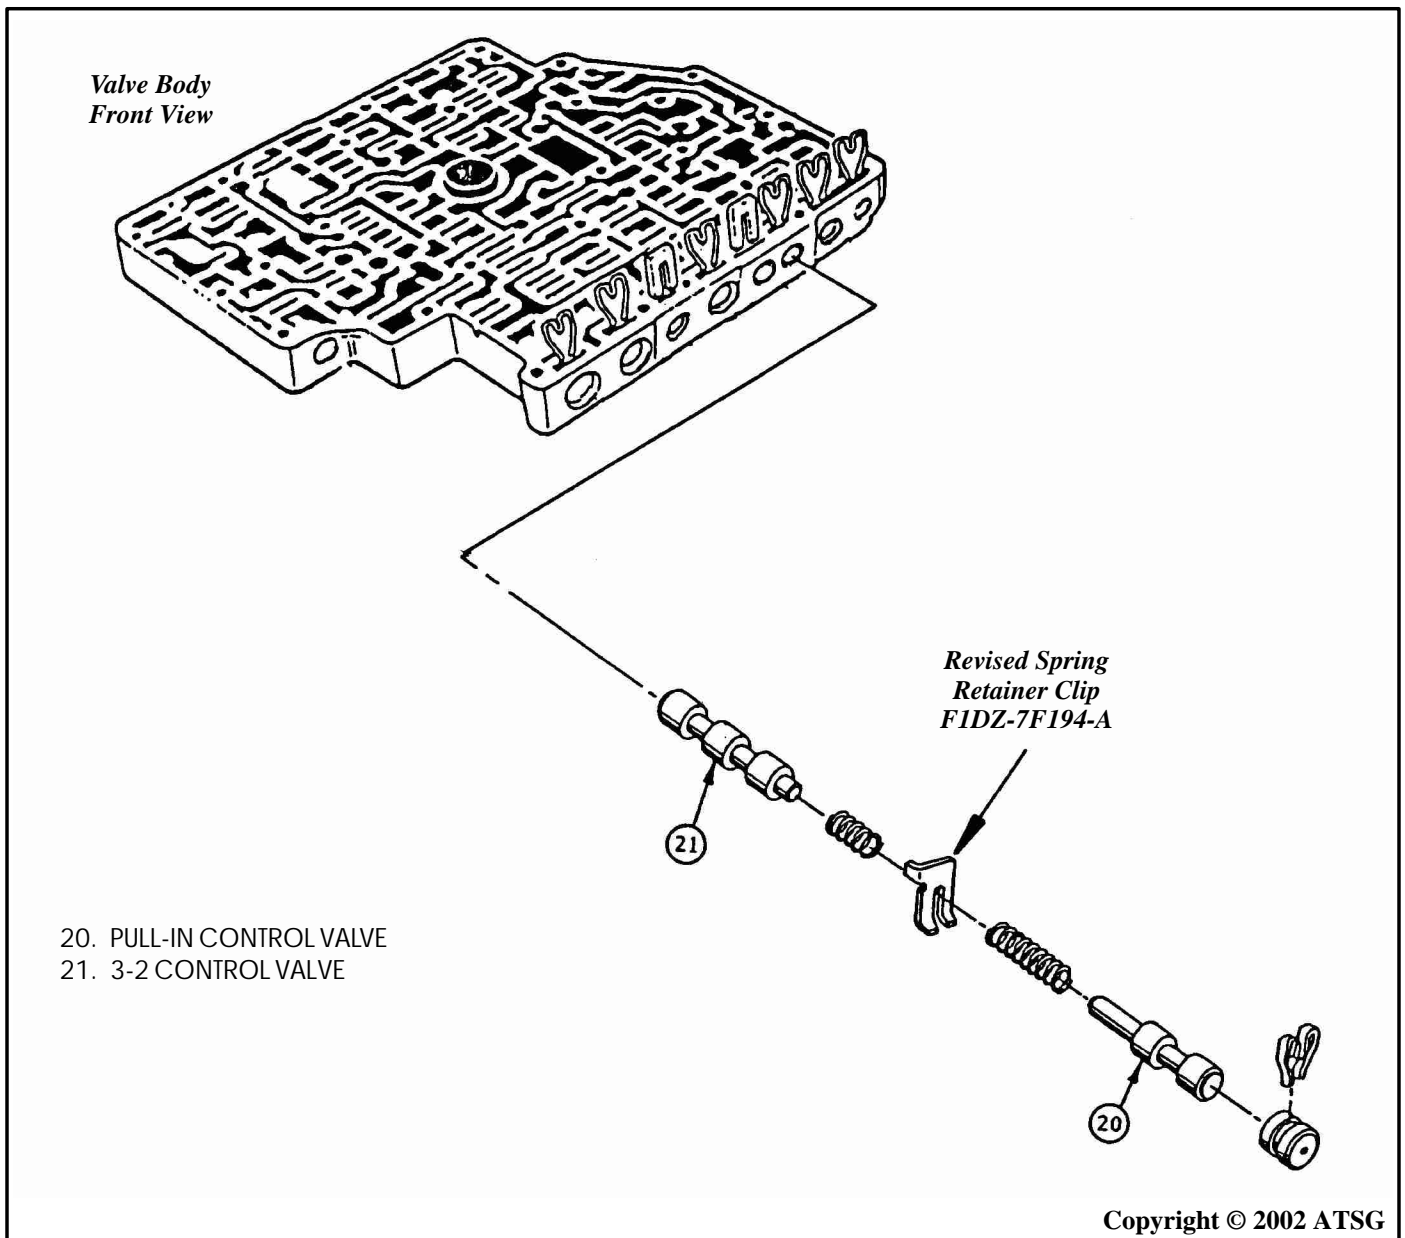

Figure 75
**CAUSE:** The cause may be, a broken spring retainer clip between the pull-in control valve spring and the 3-2 control valve spring, as shown in Figure 75.
**CORRECTION:** Replace the spring retainer clip with OEM part number F1DZ-7F194-A, as shown in Figure 75.